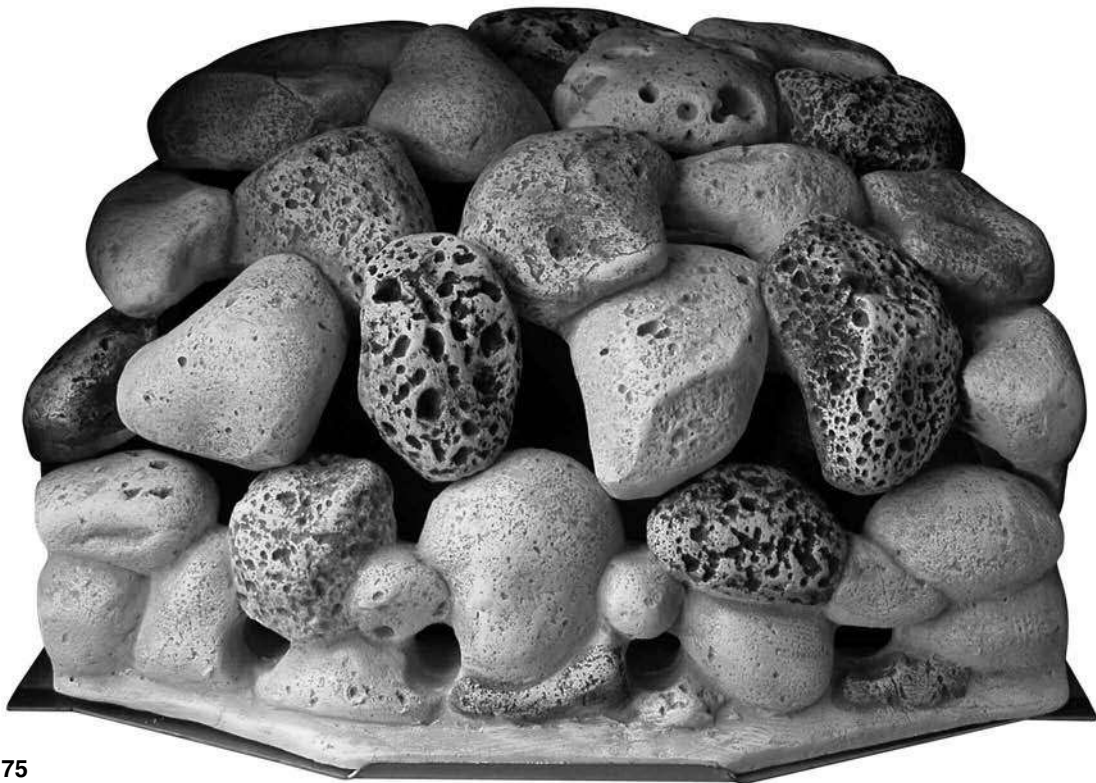

Fig. 75
5. Finally check that all the pebble pieces are 'nested' together correctly (Fig. 75).